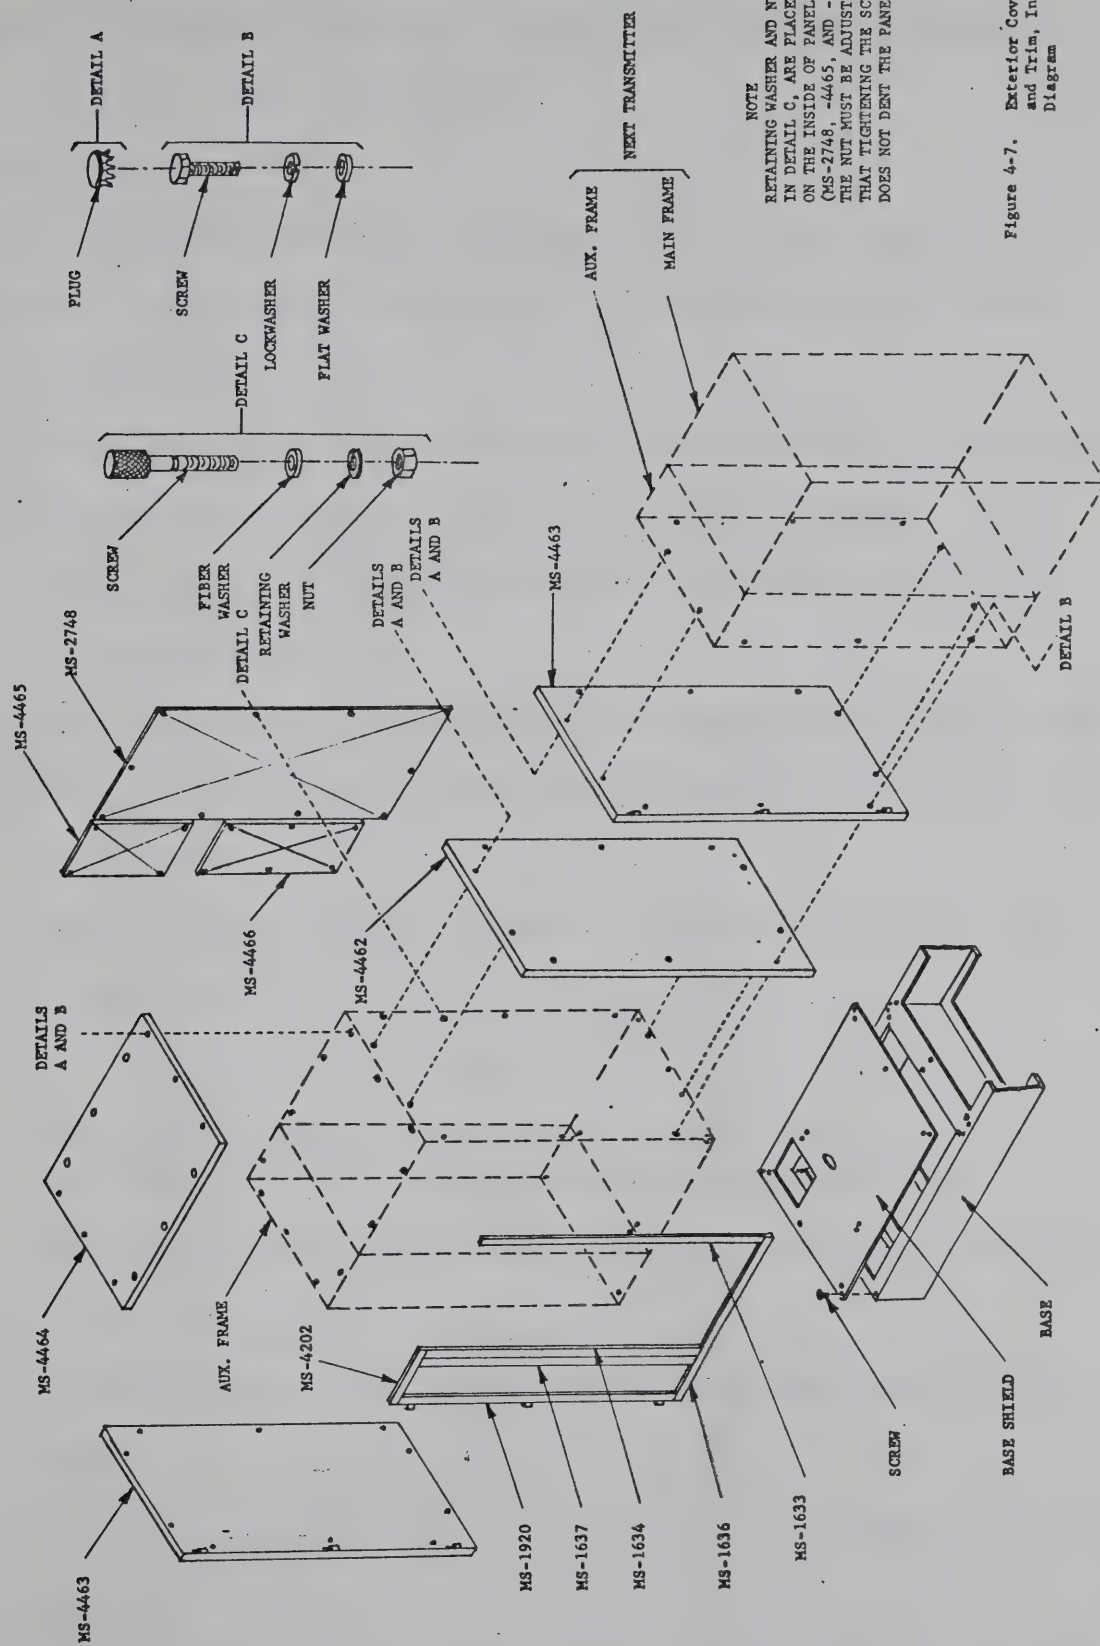

Figure 4-7. Exterior Covers, Panels and Trim, Installation Diagram
- a. Appropriately position cover top MS-4464 (contained in crate 2) on top of frames (see figure 4-7).
Refer to figure 4-7